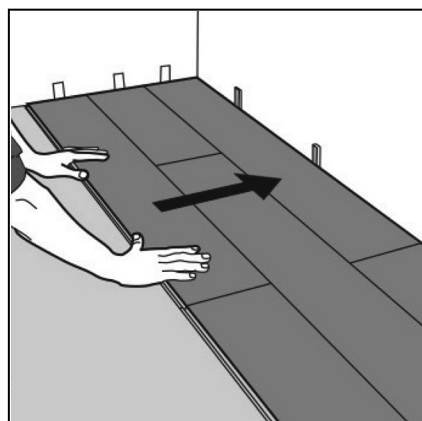

Figure 53 Second plank, second row
- > Remember to place spacers to ensure the correct expansion gap has been left at the walls; (Fig 53). Continue in this way to the last row.